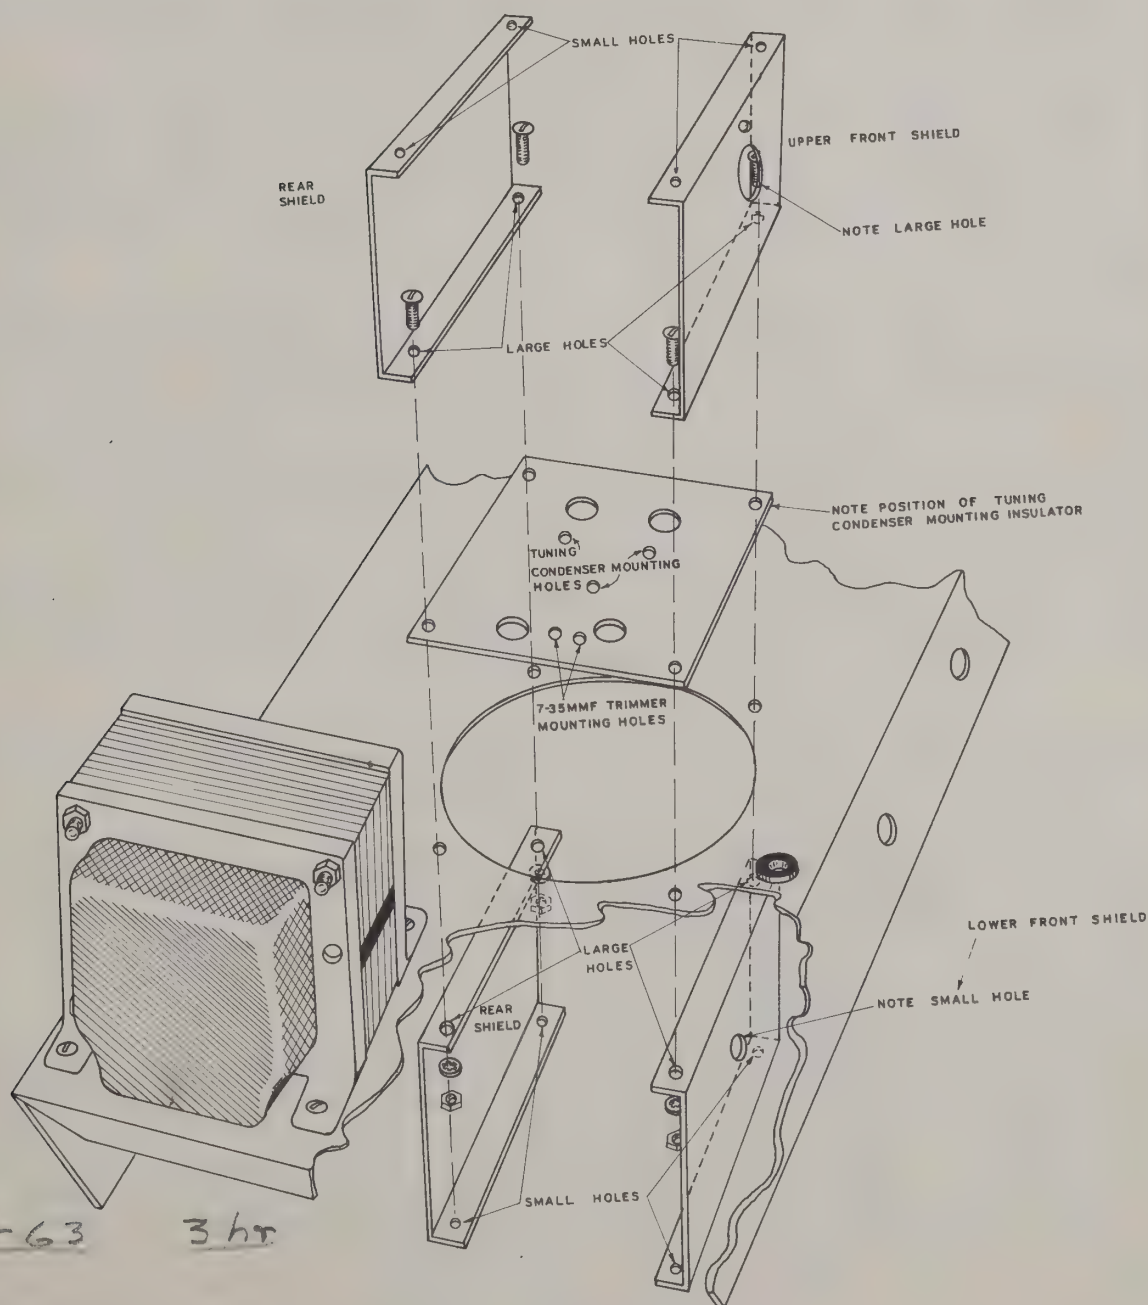

Figure 1
- (✓) Place the tuning capacitor mounting insulator over the large hole on top of the chassis as shown in Figure 1 on Page 11. Orient the large hole nearest the edge of the insulator to the corner toward the power transformer. Using 6-32 hardware, install the insulator, together with the upper and lower front shields, as shown. (Do not install the rear shields at this time.)
- (✓) Mount the tuning gang on the insulator using three 3/16" 6-32 screws in the holes marked for that purpose in Figure 1. Include solder lugs SL-1 and SL-2 under the two screws toward the chassis front, oriented as shown in Pictorial 1 on Page 9.
- (✓) Connect a bare wire from SL-1 (S-1) to T-1 (NS).